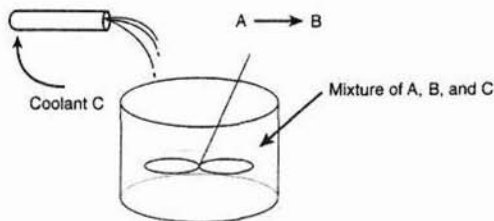

Figure P9-6
- P9-6_B** You are operating a batch reactor and the reaction is first-order, liquid-phase and exothermic. An inert coolant is added to the reaction mixture to control the temperature. The temperature is kept constant by varying the flow rate of the coolant (see Figure P9-6).